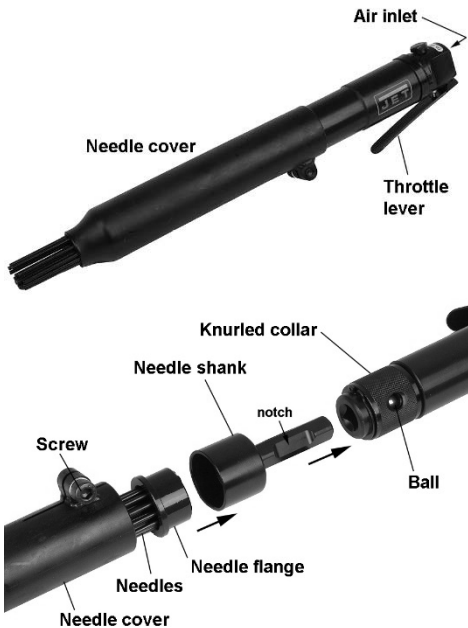

Figure 1
6. Remove protective cap from air inlet (Figure 1). If an in-line oiler is not being used, add 4 or 5 drops of air tool oil (not included) into the air inlet.